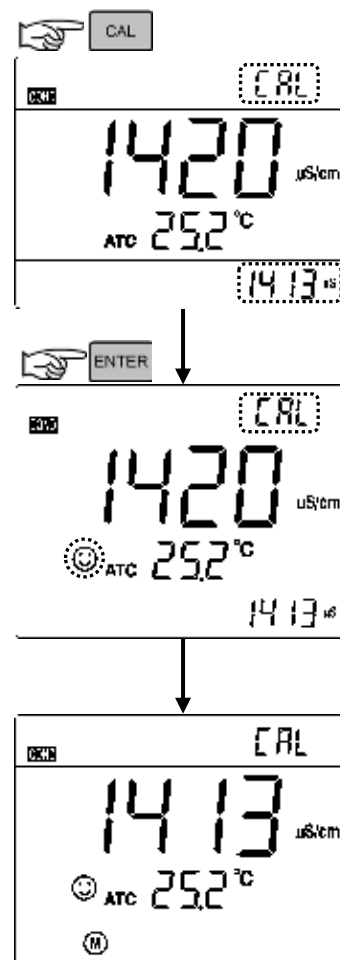

Figure-12
7.4.3 When the meter locks 1413 μS , stable icon ☺ will display on LCD. Press **ENTER** key to complete calibration. End will appear and the meter will return to measuring mode and **M** is displayed on bottom left of the LCD screen. See figure-12.